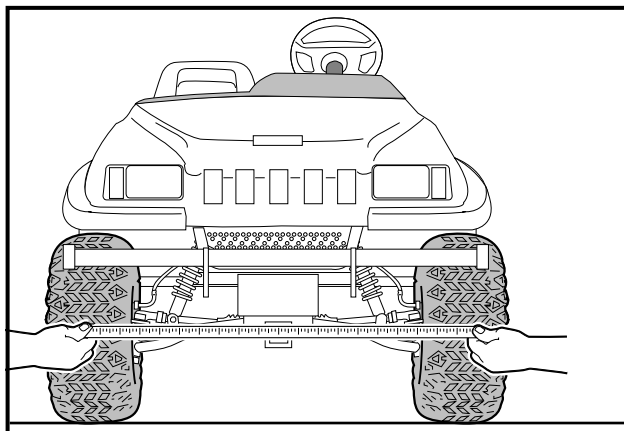

Figure 7-24 Measure Toe-in
4. Measure the distance between the marks on the forward-facing surfaces of the tires (**Figure 7-24, Page 7-13**). See following **NOTE**.